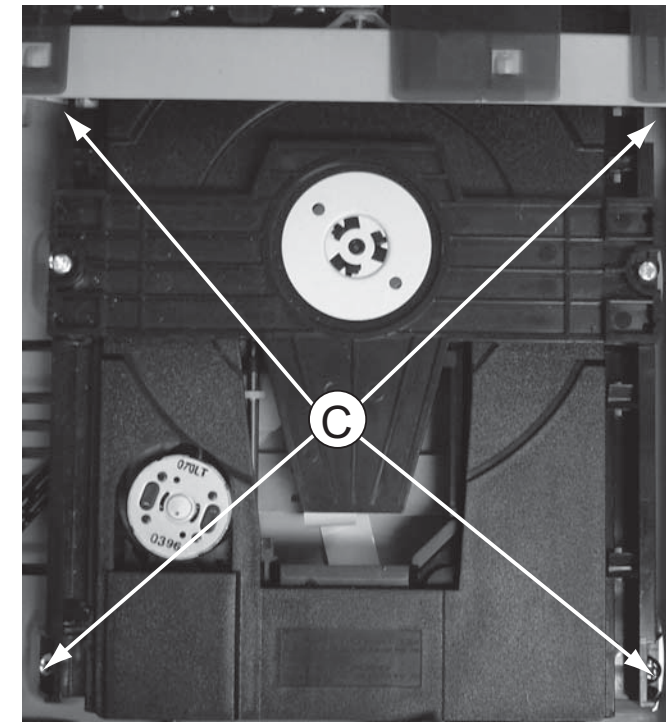

Figure 6
- 1) Loosen 4 screws "C" at the DVD Loader Module as shown in figure 6.